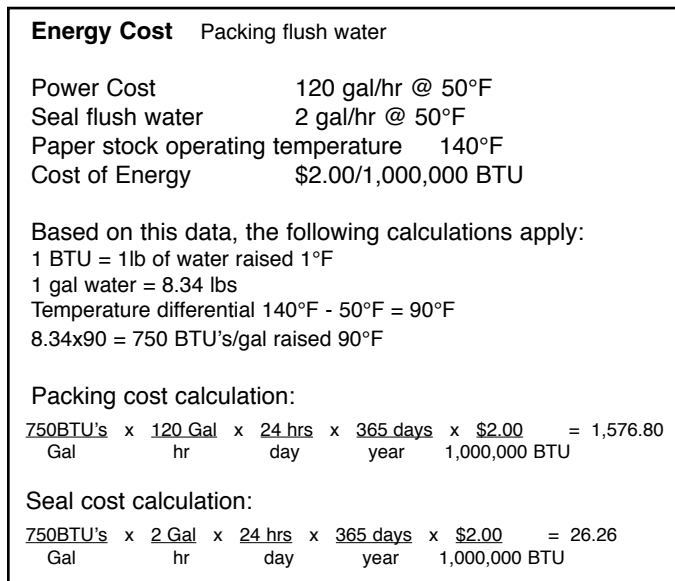

Figure 6
In Figure 6 we see an example of calculations showing where savings are available by changing from packing to a mechanical seal. The example used is a standard paper stock pump, using cold (50°F) water for flush media. The rate of flush is two (2) gallons per minute (1,051,200 gallons per year). The flush water must be elevated from 50°F to 140°F for the system to function properly.
The chart in Figure 6 shows the estimated cost in British Thermal Unit dollars per year, to raise the flush water (50°F) to system temperature (140°F). This example does not address power for flush water transfer, evaporation costs or waste treatment.